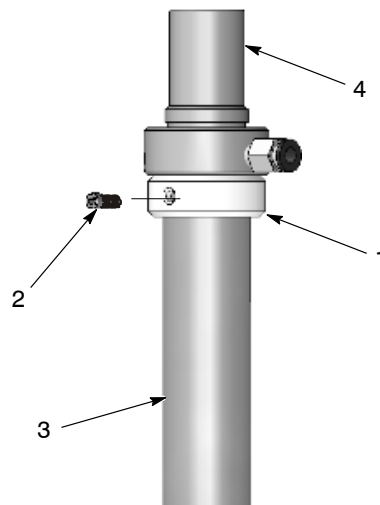

Figure 3-6 Collar Installation on Pickup Tube
3. See Figure 3-6. Install the collar (1) on the pickup tube (2) as shown. Tighten the socket-head screw to secure the collar.